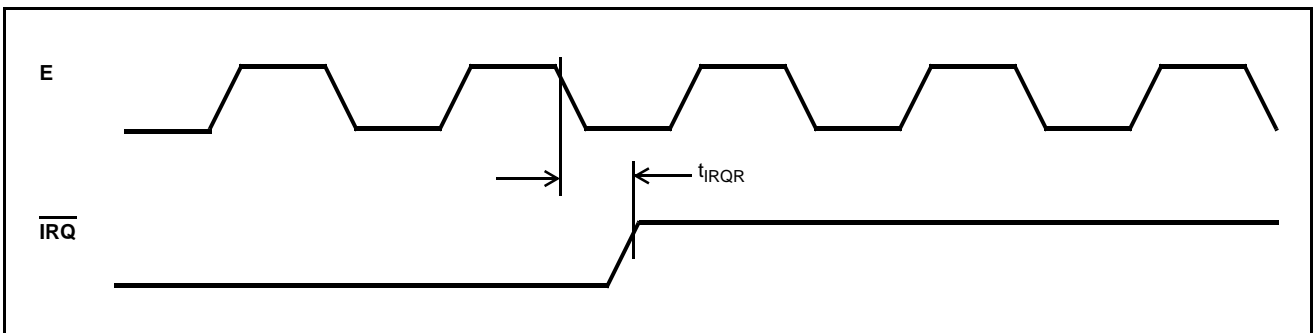

Figure 19 - Interrupt Request Release Time
**AC Electrical Characteristics† - Serial Port, RESET, WD Timer and IRQ Release Time (Figures 19, 20, 21 and 22).** Voltages are with respect to ground ( $V_{SS}$ ) unless otherwise stated.